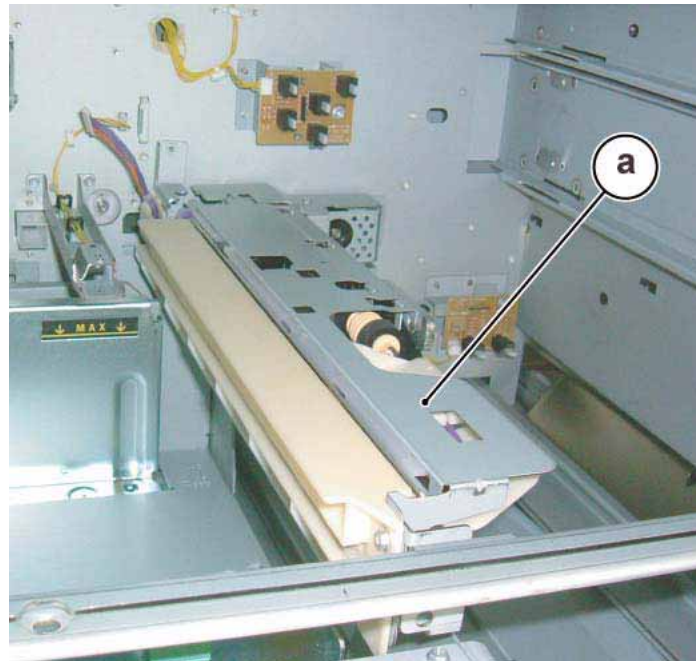

Figure 4 Removing the Tray 4 Feed Assembly
8. Remove the Tray 4 Feed Assembly. Figure 4